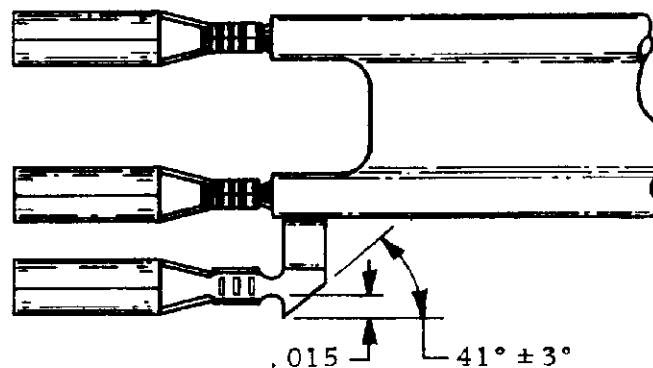

Figure 3
- B. Relief angle shall be within the limits specified in Figure 3.